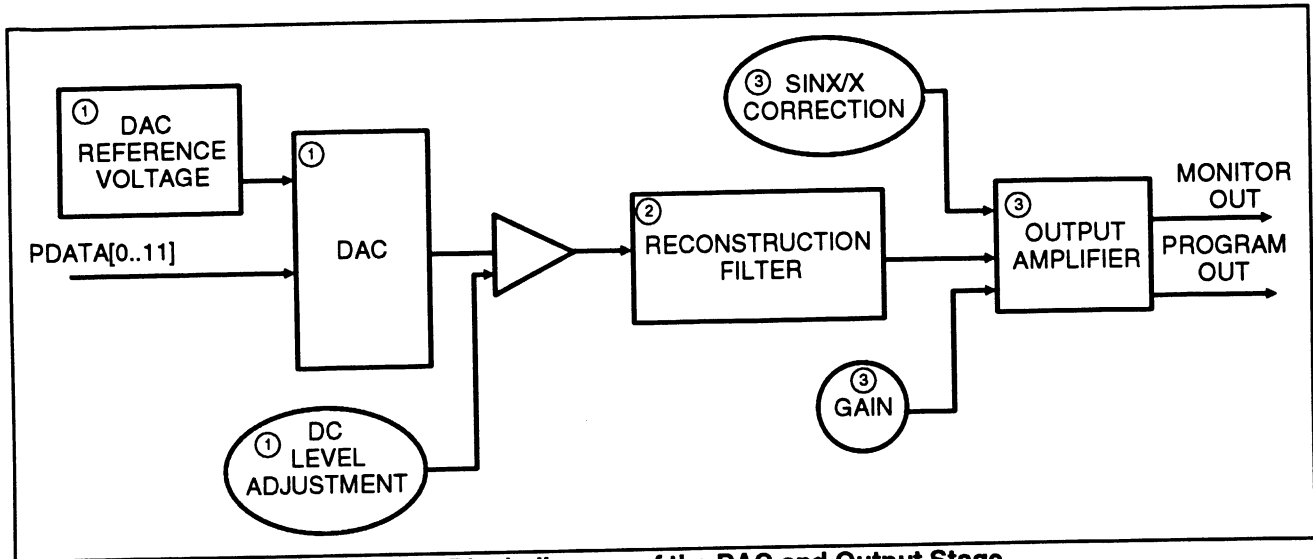

Fig. 2-14. Block diagram of the DAC and Output Stage.
⑥ DAC & OUTPUT STAGE (See Fig. 2-14)
① Output DAC and Reference Voltage